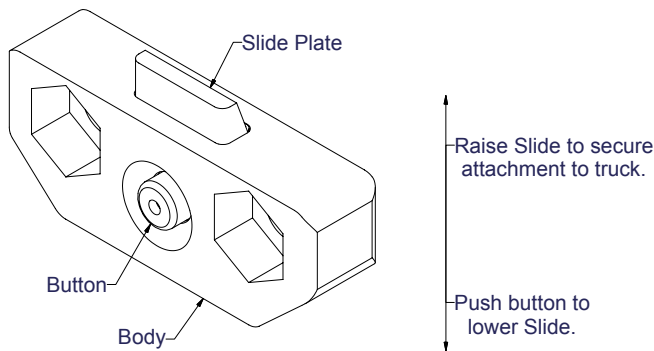

Figure 3-2, Quick Change Hook
3. Remove the lower bolt-on hooks and, if applicable, make a note of any factory installed shims. Shims are used to create clearance between the hook and carriage. If the attachment is equipped with Quick Change Hooks, simply depress the button on the back of the hooks, allowing the slide plate to drop. Removal of the Quick Change Hooks is NOT recommended. (Figure 3-2)